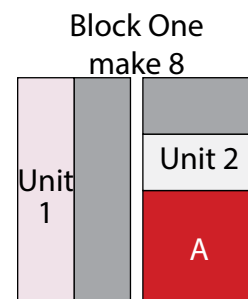

Fig. 3
3. Sew (1) Unit 2 square to the top of (1) 8 ½" Fabric A square. Sew (1) Unit 1 strip to the left side of the newly sewn strip lengthwise to make (1) 16 ½" Block One square (Fig. 3). Repeat to make (8) Block One squares total.